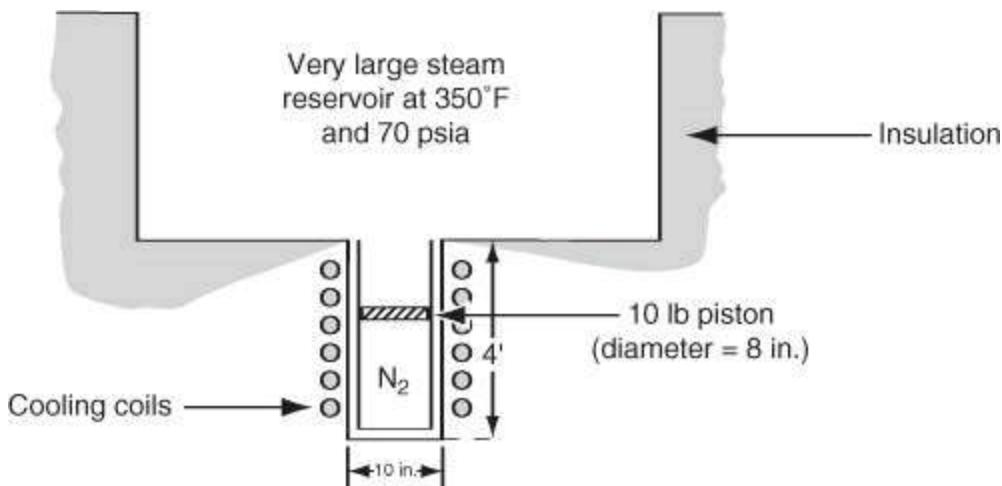

Figure P14.6
**14.6. Nitrogen is being compressed by a piston as shown in Figure P14.6.